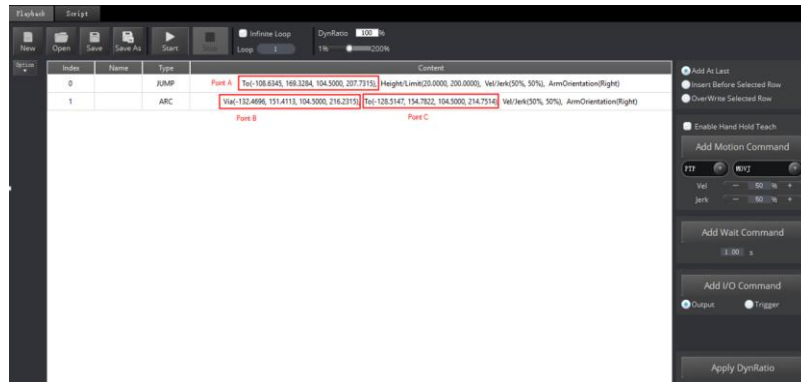

Figure 6.4 Information of saved points in ARC
- Step 9** Click **Start**, and you will find that Dobot M1 moves as an arc. The information of saved points in ARC is shown in Figure 6.4.